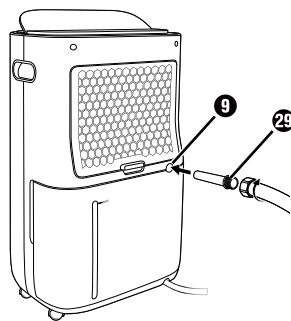

Fig. 4
- ◆ When using the EU garden hose adapter ②⑨, screw a garden hose onto the EU garden hose adapter ②⑨ (see figure 4).